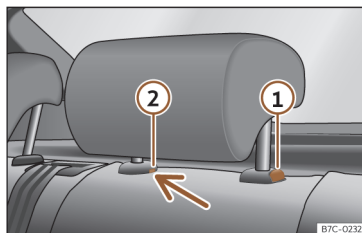

Fig. 99 Rear head restraint: removal.
- Press button >>> Fig. 99 ①, while simultaneously pressing on the safety hole ② with a flat screwdriver a maximum of 5 mm wide, and remove the headrest.